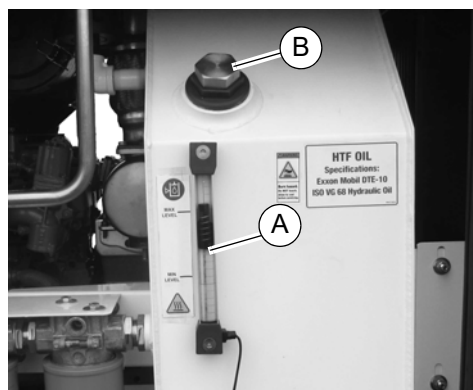

Figure 3-2. Hydraulic Oil Gauge
1. See Figure 3-2. Verify hydraulic oil level is between MIN and MAX on the hydraulic oil level gauge (A).